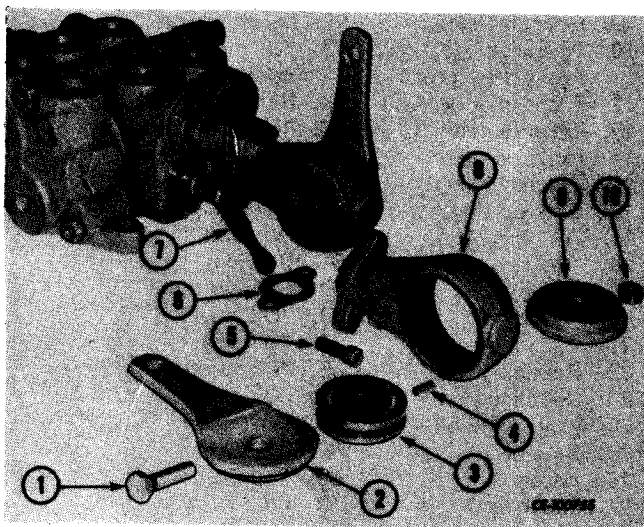

Figure 11-32
Remove left lever arm (2, Fig. 11-32), end plate (9) and nut (10). Repeat above procedure for right lever arm. Remove pin (4) which attaches plunger lever (7) to friction disc (3). Remove socket head cap screws (5) securing housing to valve. Withdraw housing and friction disc and separate them. Remove seal plate (6).